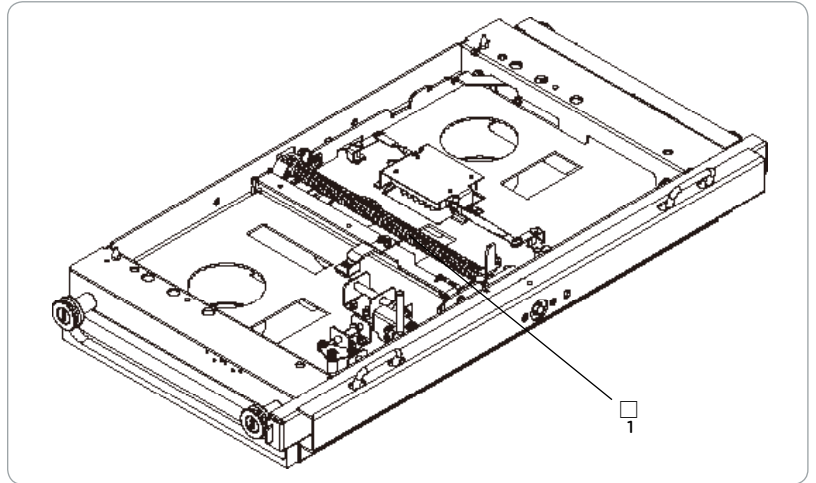

Fig. 8.2
- Spindle of withdrawable unit mechanism(Fig.8.2,item 1)